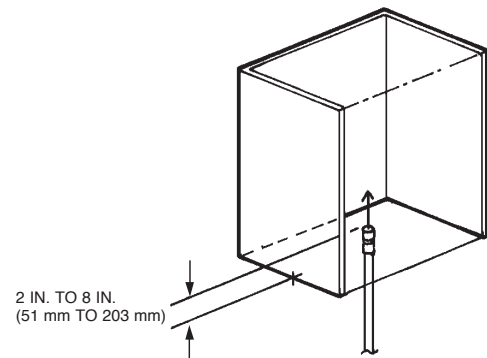

FIGURE 4-1
1. Nozzles must be located 2 in. to 8 in. (51 mm to 203 mm) into the center of the duct opening, discharging into the opening. See Figure 4-1.